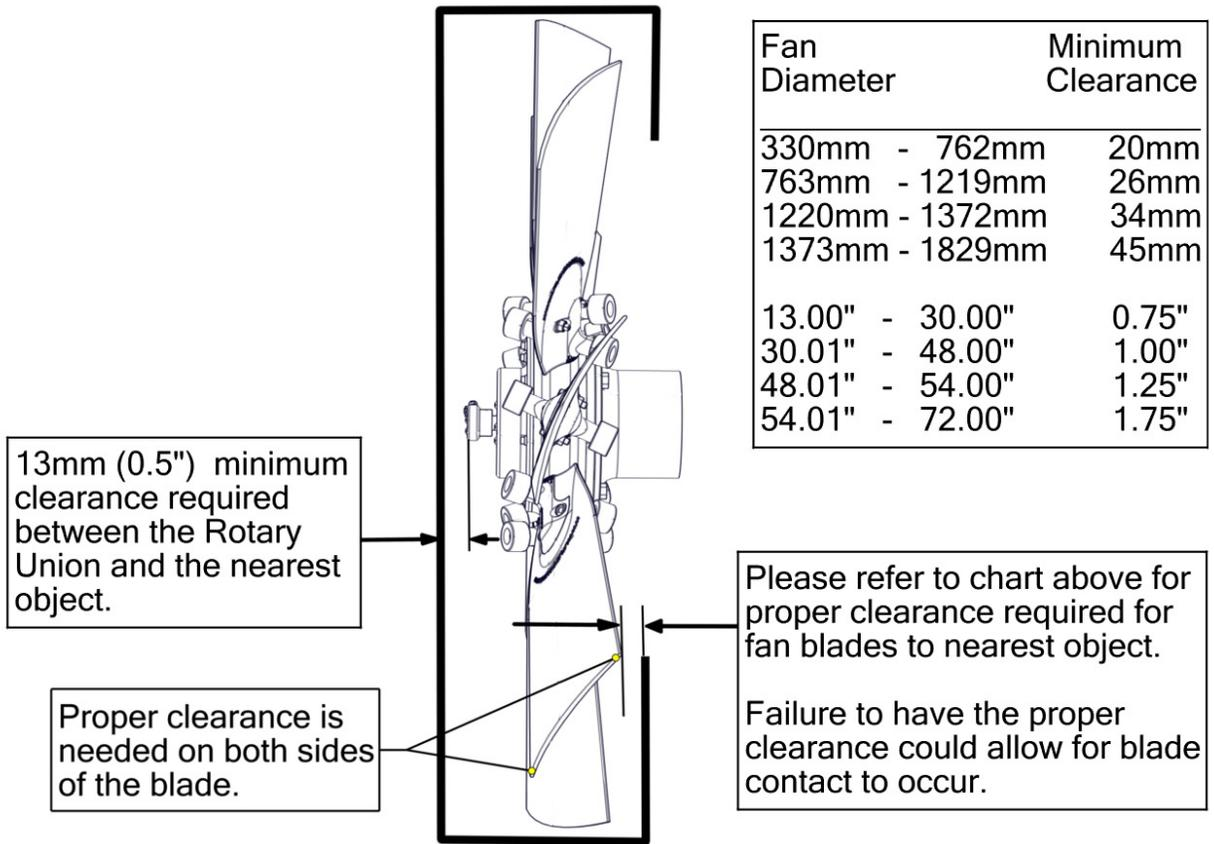

Figure 10
5. Ensure you have the correct blade edge clearance. See Figure 10 on the next page or a list of minimum clearances based on fan diameter.
**WARNING: Ensure that you have the minimum clearance between the rotary union and closest obstruction as per Figure 10 on page 4-5.**
Does fan rotate in default and full reverse pitches without obstruction? See <a href="#">Fig 10, page 4-5</a> .
Does fan rotate in default and full reverse pitches without obstruction? See <a href="#">Fig 10, page 4-5.</a>